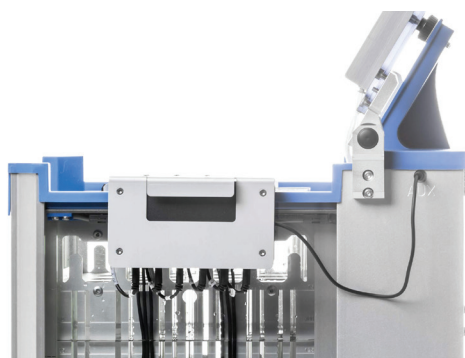

Figure 5. If using a TurboVap II rack with end-point sensors, connect the sensor connection box to the AUX port.
5. If using a TurboVap II rack with end-point sensors, connect the sensor connection box to the **AUX** port on the right side of the system (see Figure 5).